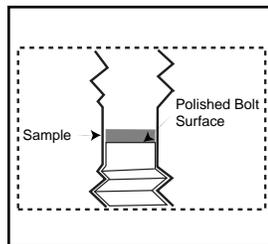

Figure 2 - Close-up of sample inside Barrel chamber.
2. Add sample/KBr to chamber and gently shake to level sample (*Figure 2*).